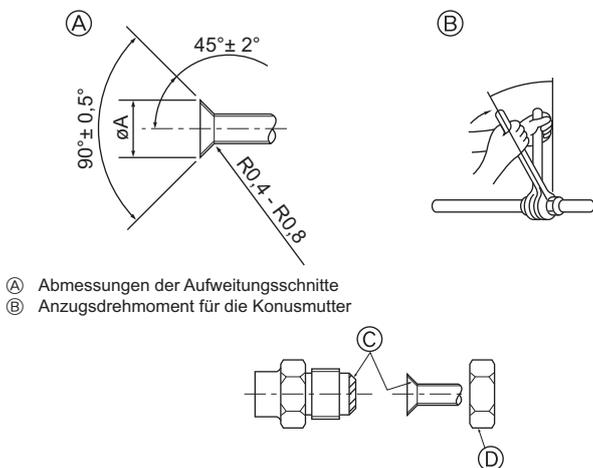

Fig. 4-2
(A) (Fig. 4-2)
(B) (Fig. 4-2)
### 4.2. Rohranschlüsse (Fig. 4-2)